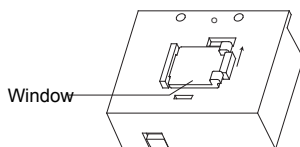
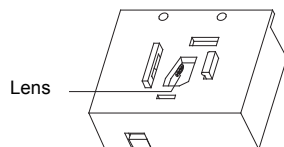

Fig.24
Fig.25
- 3.Open the window of small box(Fig.24) and then slightly wipe the lens with cotton bar.(Fig.25)